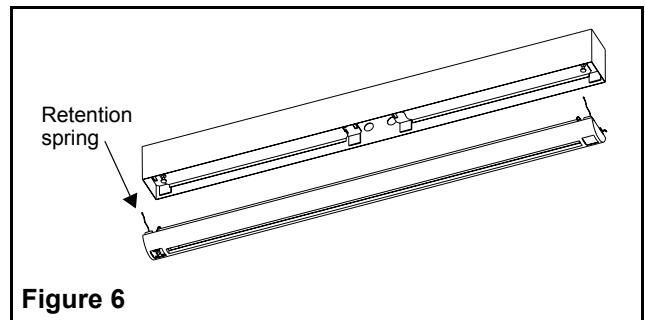

Figure 6
2. Compress the retention springs and insert the trimplate assembly in the back box. Push the assembly in place (see fig. 6).